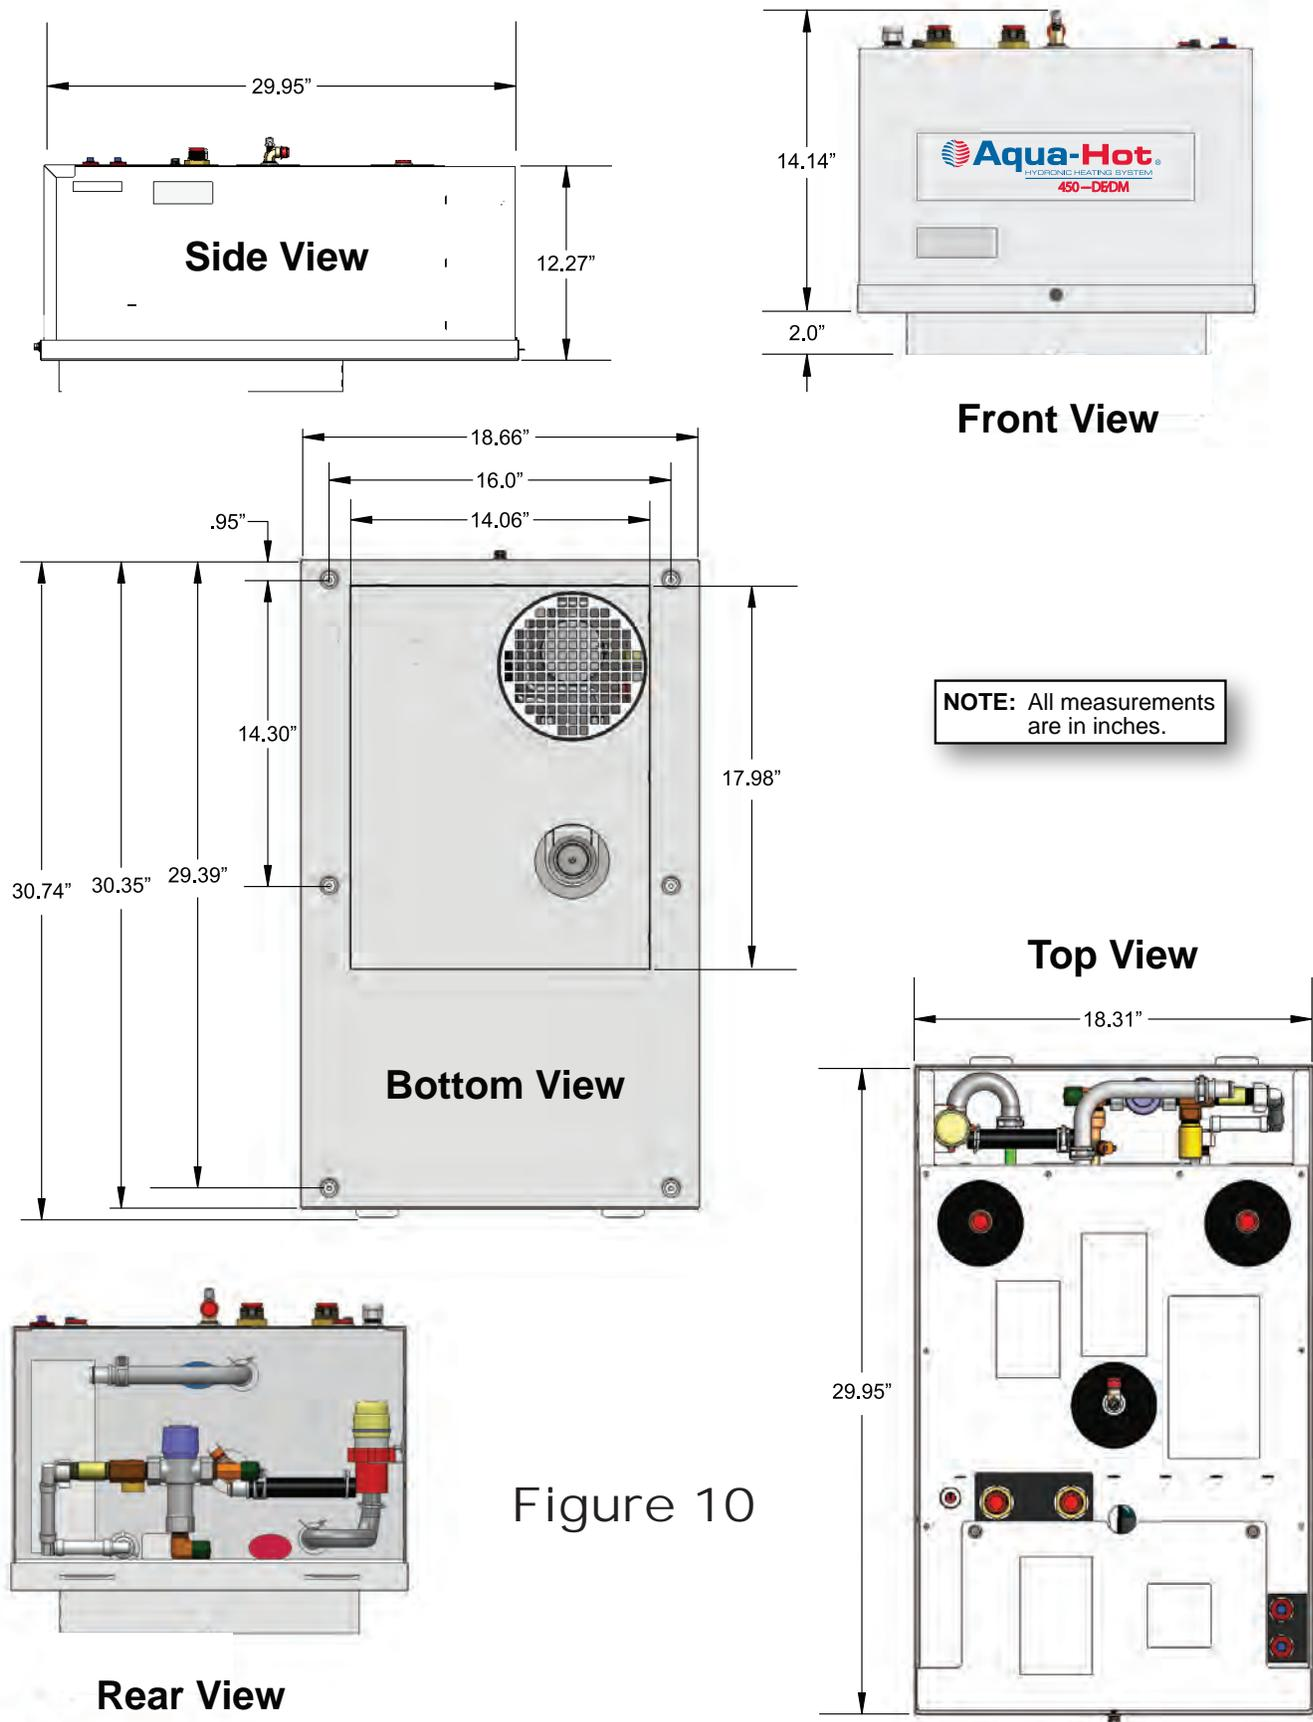

Figure 10
- Overall Aqua-Hot dimensions - Figure 10